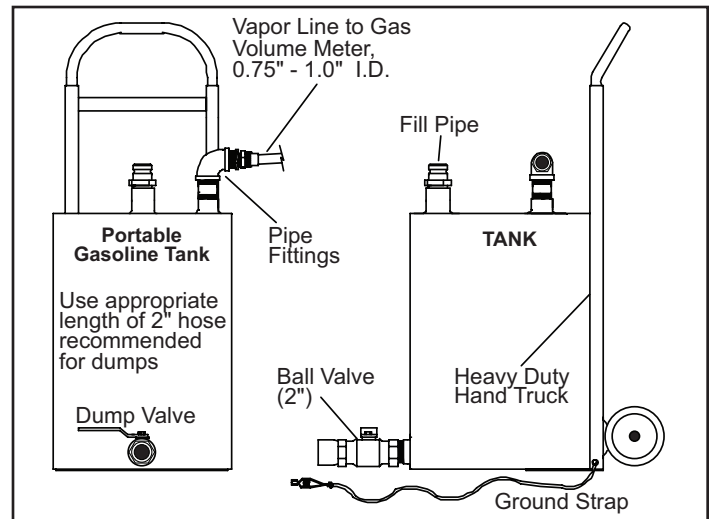
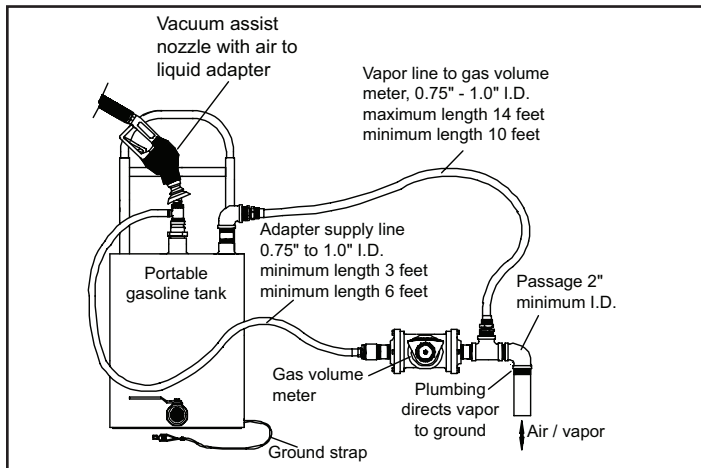

Figure 3: Portable Tank Assembly
Figure 4: Assembled Air to Liquid Volume Ratio Test Equipment
The tank shall have sufficient volume so that at least 4.5 gallons may be dispensed prior to activating the primary shutoff mechanism of the dispensing nozzle. Tank material, likely to provide contact with the nozzle spout, or A/L adaptor, during the entire dispensing event, shall be constructed of aluminum or brass or other materials approved by the local fire codes for such application. The tank and required plumbing configuration is shown in Figure 3 and Figure 4.
This configuration permits a portion of the vapors displaced during testing to be returned to the gasoline storage tank. The minimum and maximum dimensions shown in Figure 3 and Figure 4 shall be adhered to in all cases.
1. Assemble the portable tank assembly and gas volume meter as shown in Figure 3. The minimum and maximum dimensions shown in Figure 3 shall be adhered to in all cases. Ensure that the ground strap is properly connected to an acceptable ground.
3. At the conclusion of testing at the facility, conduct a post-test leak check of the A/L adaptor by connecting the A/L adaptor to a surrogate spout as shown in Figure 4. Raise the test pressure to five inches H₂O, gauge (5.00" WCg). Squirt liquid leak detector solution on interfaces and other potential leak sources while watching for the formation of bubbles. There shall be no formation of bubbles, or a drop in pressure below 4.95" WC for three minutes from the start of the test. The data collected during the A/L testing is invalid if the test equipment fails this post-test leak check.